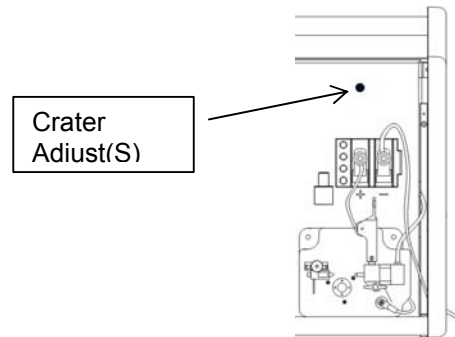

Figure 3.2
- 3-2.7 Adjust the crater fill knob located above the polarity stud inside the machine (see Figure 3.2) if there is a crater left at the end of the welding seam. This knob Adjust current decline time (in second) after the gun switch is released.